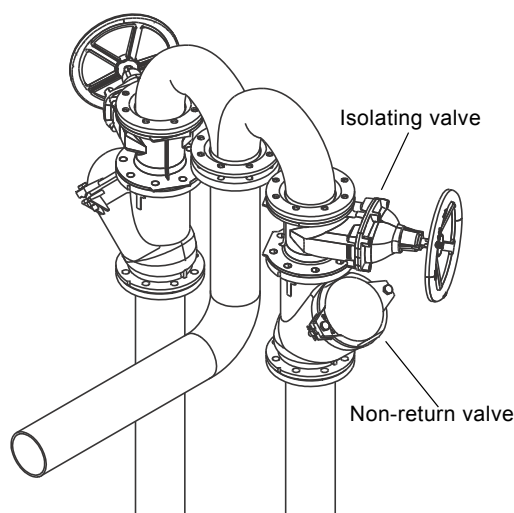

Fig. 31 Gooseneck with valves
2. Remove the two screws on the non-return valve cover. See fig. 31.
5. Open the isolating valves. See fig. 31.